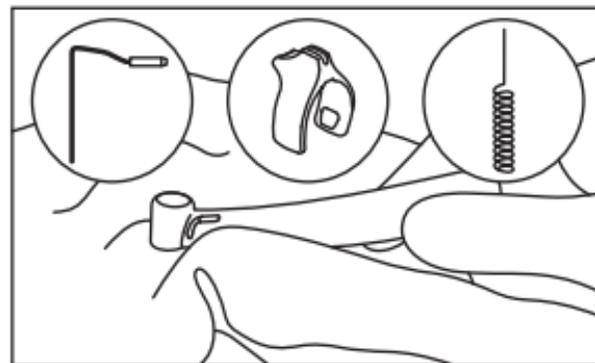

Fig. 20
5) Wipe the exterior of the handpiece, internal spray nozzle, nozzle holder and cleaning wire clean using a cloth moistened with disinfectant or ethanol with a concentration of 60-90%. (Fig. 20)